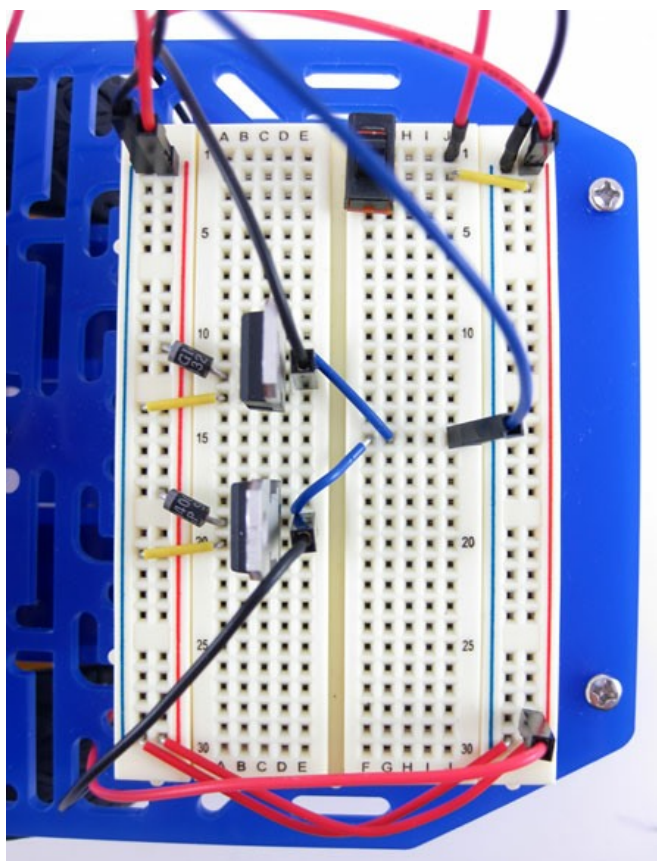

Figure 5. Your completed circuit should look like this.
2. Now that you know how to use a breadboard, you are ready to assemble your BlueBot circuit. Table 2 shows a list of all the components in the circuit and where they go on the breadboard. You can download and print a [PDF](https://www.sciencebuddies.org/science-fair-projects/checklist-Robotics_p024-new.pdf) (https://www.sciencebuddies.org/science-fair-projects/checklist-Robotics_p024-new.pdf) of this table—complete with checkboxes to track each step—to use while you are building your robot. You can also view a slideshow (#breadboard-slideshow) that shows breadboard diagrams of the circuit. Follow along in the table and/or slideshow to build your circuit one component at a time. Your finished circuit should look like the one in Figure 5 (#figure5).